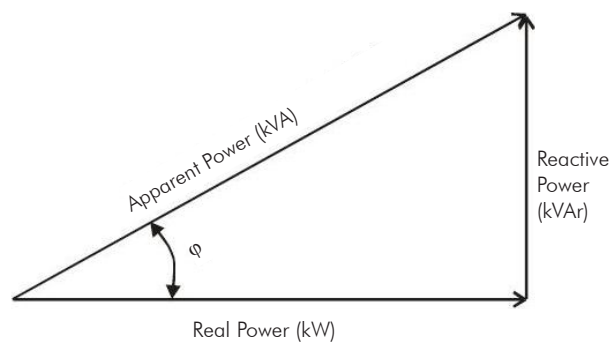

Figure 2.6 - Power triangle
From the power factor value, in the case of sine-shaped waves, the real (P), reactive (Q) and apparent (S) powers can be represented by vectors that form a right triangle, also known as power triangle, as shown in figure 2.6, from which the power relations can be obtained.